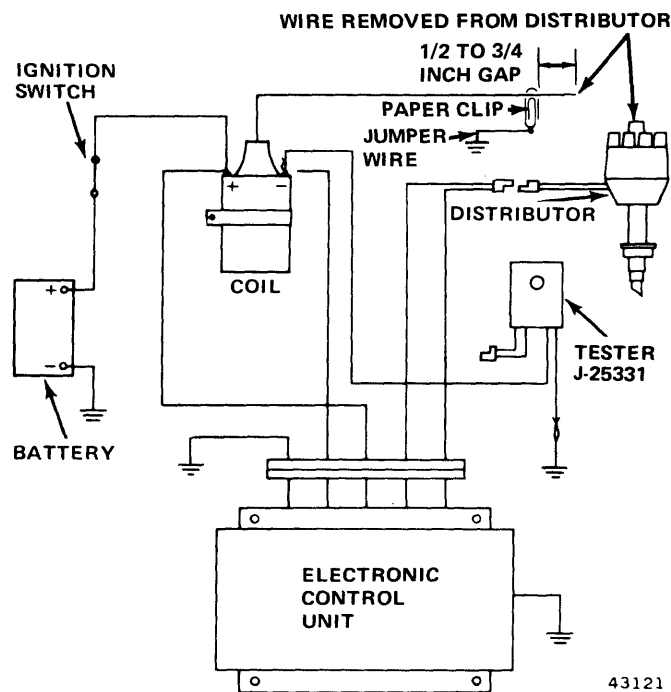

Fig. 3-54 Tester Connected to Coil Negative Terminal
(13) Disconnect tester from control unit.
(14) Turn ignition switch OFF. Remove wire from the negative terminal of the ignition coil.
(15) Connect one clip lead from tester to negative terminal of ignition coil and the other clip lead to an engine ground (fig. 3-54).
(16) Turn ignition switch ON. Cycle test button.
(17) Spark should jump the gap. If not, replace the ignition coil.